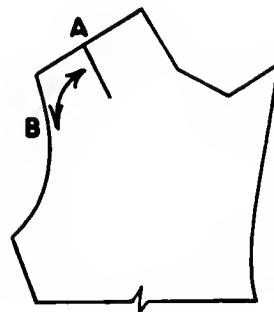

Fig. 150. Shaping the ball and socket joint.
- C. Place the iron at A in Figure 150 at the gorge and using the side edge of the iron for stretching, work with a circular motion from right to left. Keep the tip of the iron at a central point.